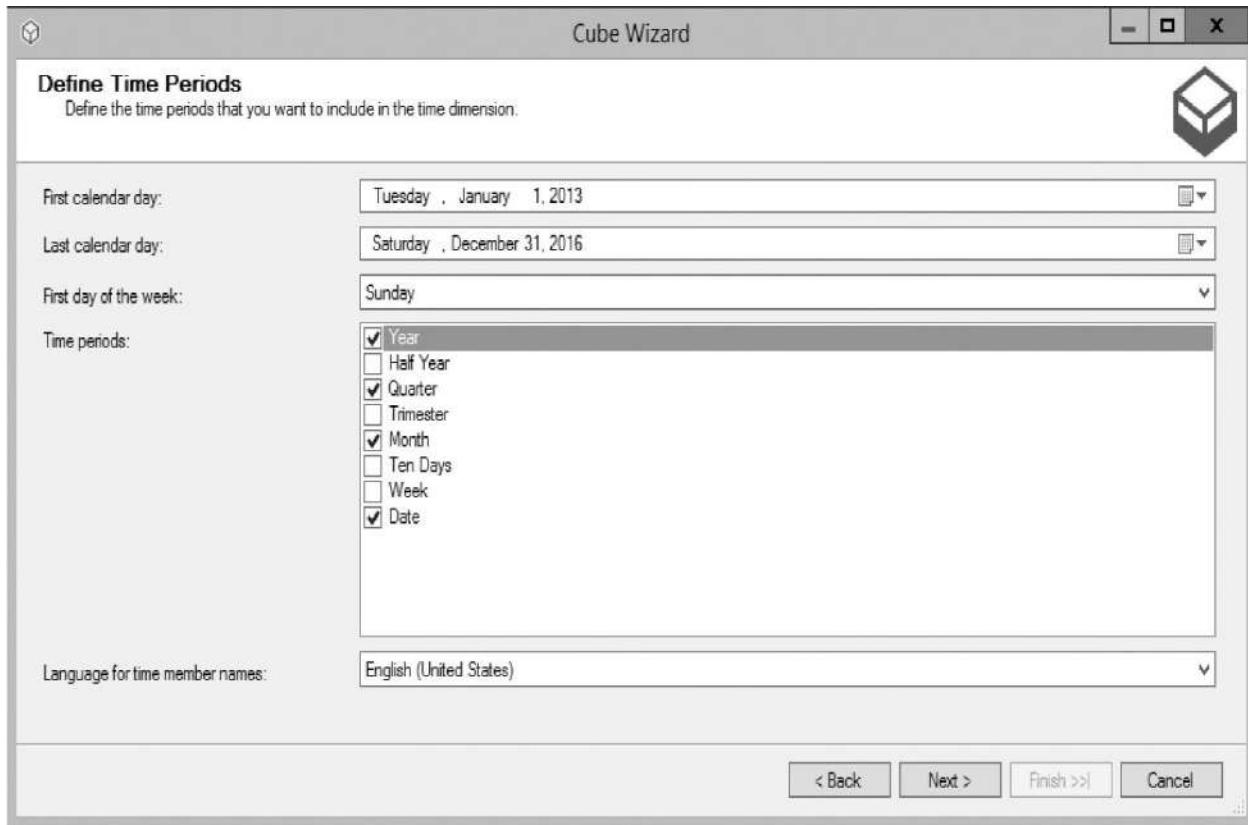

Figure 6-28 After defining the time periods for the time dimension in the Cube Wizard
36. The Define Time Periods page enables us to specify range, format, and hierarchy for the time dimension. Select Tuesday, January 1, 2013 from the First calendar day date picker. Check Month, Quarter, and Year in Time periods. (Leave Date checked as well.) The Define Time Periods page appears similar to Figure 6-28.